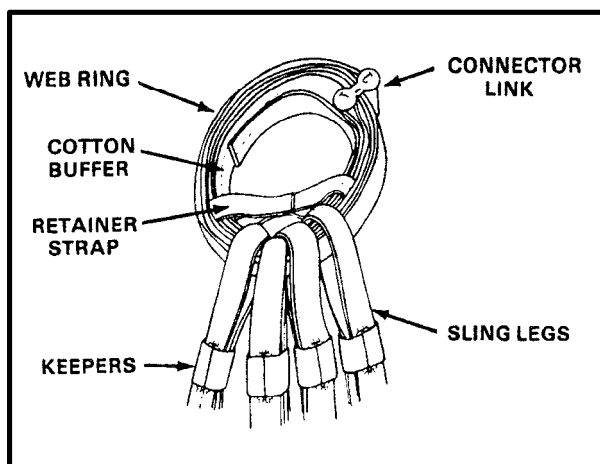

Figure 6-18. Legs Assembled on Web Ring
**a. Nylon Web Ring.** The nylon web ring has a maximum capacity of 15,000 pounds. Figure 6-18 shows that the web ring is held together by a connector link. A cotton/nylon buffer, sewn on the inside of the nylon web strap, helps prevent wear to the ring. There are also cotton/nylon buffers sewn to the inside of each end of the sling leg. Figure 6-18 shows the four legs attached to the web ring. Notice how the nylon loops of the sling leg are positioned under the retainer strap to prevent the legs from moving around the web ring.